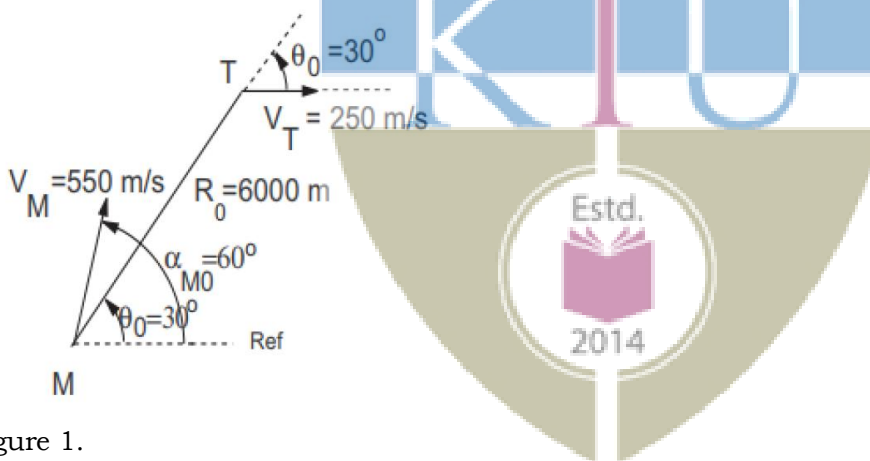

Figure 1.
3. For the intercept geometry shown in Fig.1, with the given initial conditions, find the final LOS at which the missile approaches the target.